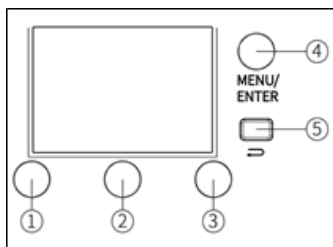

Figure 8: Control Panel Diagram
- Users can return to the main menu by pressing the "Return" button (Figure 8, No. ⑤).
- Use the "Parameter Adjustment" knobs (Figure 8, Nos. ①/②/③) to select the desired option for parameter adjustment.
- Press the "MENU/ENTER" button (Figure 8, No. ④) to choose the operating mode and enter the desired option.
In this mode, users can adjust parameters such as "Color Temp," "G/M," and "Intensity" using the parameter adjustment knobs shown in Figure 8 (Nos. ①/②/③).
In this mode, users can adjust parameters such as "Hue," "Saturation," and "Brightness" using the parameter adjustment knobs shown in Figure 8 (Nos. ①/②/③).
In this mode, users can adjust parameters such as "Red," "Green," and "Blue" using the parameter adjustment knobs shown in Figure 8 (Nos. ①/②/③).
In this mode, users can adjust parameters such as "X_axis," "Y_axis," and "Intensity" using the parameter adjustment knobs shown in Figure 8 (Nos. ①/②/③).
2) Parameter Adjustment Knobs (Figure 8 Nos. ①/②/③): Used to set specific parameters.
In this mode, the light has 12 pre-set scenes, including "COPCAR" "CANDLE""FIREWORK""TELEVISION", "LIGHTNING""PA-PARAZZI""PARTY", "BROKEN LIGHTS""EXPLODE""NEON LIGHT", "FIRE" and "COLORCYCLE".Users can select a scene by rotating the "MENU/ENTER" knob (Figure 8, No. ④) and adjust parameters such as "Frequency" and "Intensity" using the parameter adjustment knobs shown in Figure 8 (Nos. ①/②/③).
To enable this mode, users must first turn on the "DMX On/Off" switch in the [System] menu. Then, using the parameter adjustment knobs shown in Figure 8 (Nos. ①/②/③), users can set parameters such as "DMX Address" and "DMX Operating Mode."